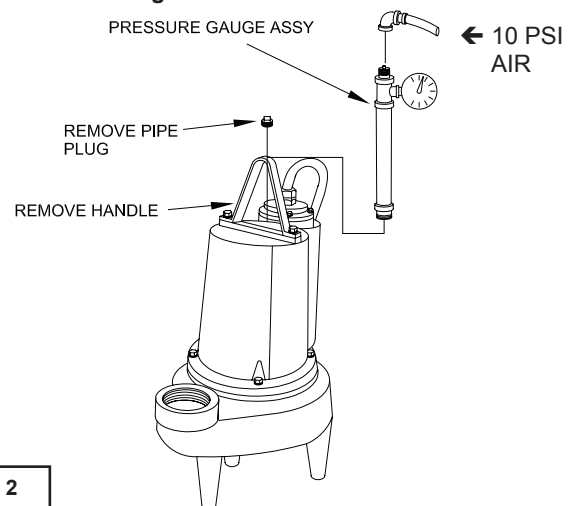

FIGURE 2
**Motor Housing** - Before checking the pump for leaks around the shaft seal, o-rings, and cord inlet, the oil level should be full as described in section F-1.3. Remove pipe plug (5) and lifting handle (7) from motor housing (2). Apply pipe sealant to pressure gauge assembly and tighten into pipe plug hole (see Figure 2). Pressurize motor housing to 10 P.S.I. Use a soap solution around the sealed areas and inspect joints for "air bubbles". If, after five minutes, the pressure is still holding constant, and no "bubbles" are observed, slowly bleed the pressure and remove the gauge assembly. Replace the pipe plug using a sealant. If the pressure does not hold, then the leak must be located.